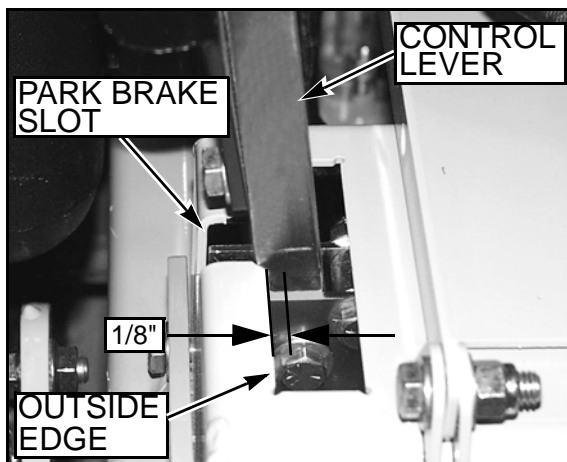

FIG. 85
5. Move the control lever to where it is just inside (1/8") the park brake slot "FIG. 85".
9. Place the control lever in the park brake slot "FIG. 85". The tire should not rotate when the control lever is in the park brake position.